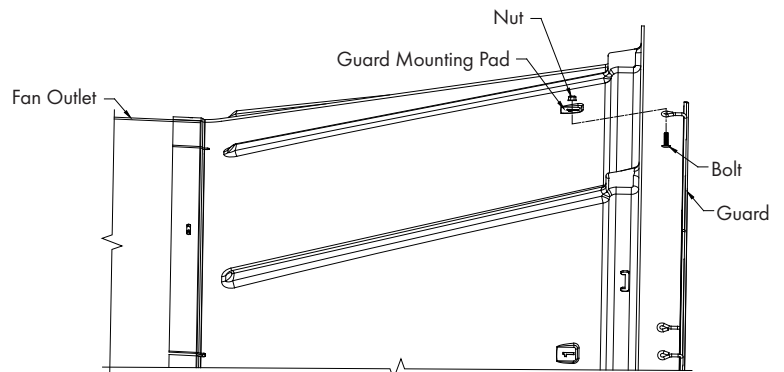

Figure 8A
If installing your existing guard into the new cone, locate the flat guard mounting pads on the cone and drill a $\frac{1}{32}$ " dia. hole in the center of each pad. Then insert existing guard into cone with the guard eyelets facing away from you. Line up each eyelet with a hole in the guard pads. Secure guard to cone using (8) existing Bolts and Nuts. See Figure 8A and 8B. Tighten all nuts at this time.